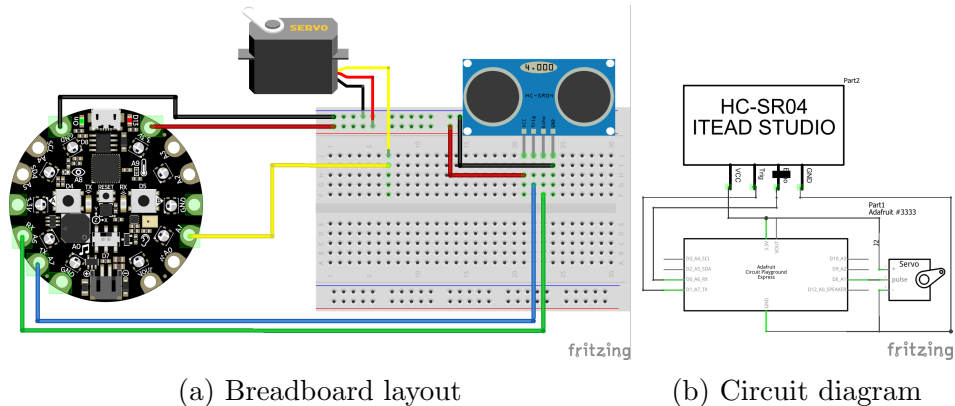

Figure 2: Diagrams for attaching external proximity sensor and servo to CPX
1. Connect the proximity sensor and servo to the CPX as shown in Figure 2.